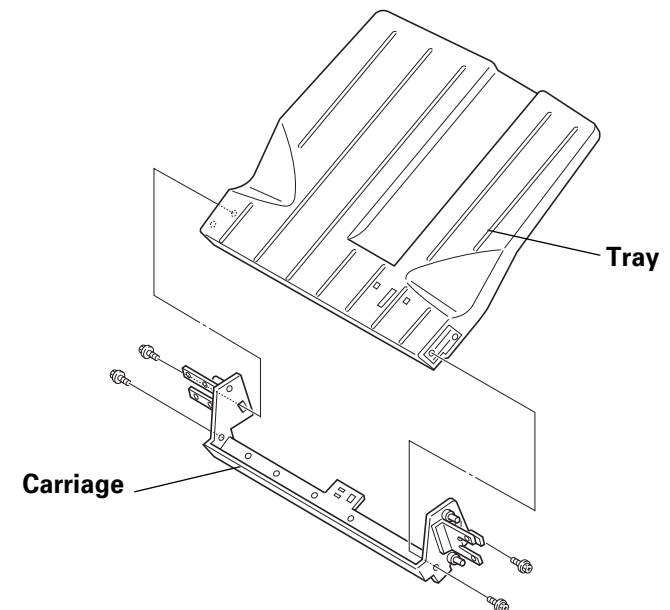

Figure 2
7. Remove four screws securing the Carriage to the Tray and remove the Tray. (Figure 2)